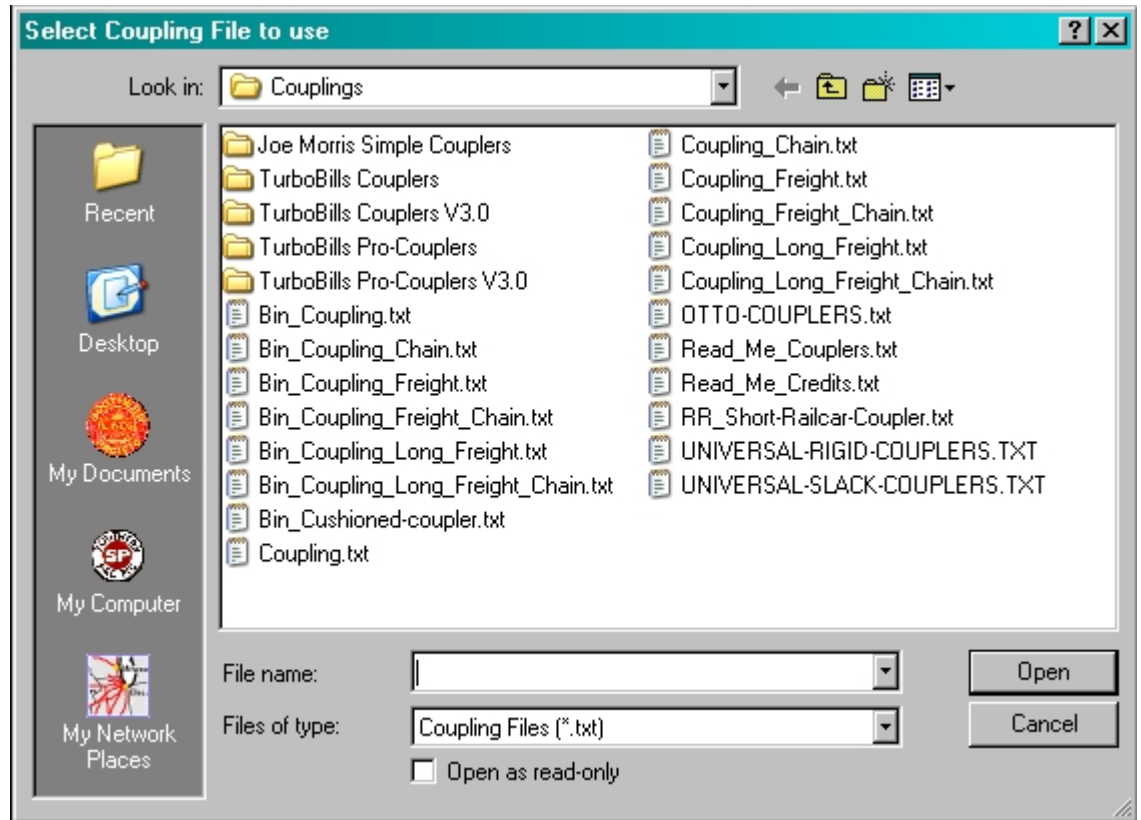

Figure 7
8. From the window shown in Figure 7, choose the coupler folder you want to apply to this item. In this case we will choose the "TurboBills_Pro-Couplers_V3.0" by double left-clicking on this folder.